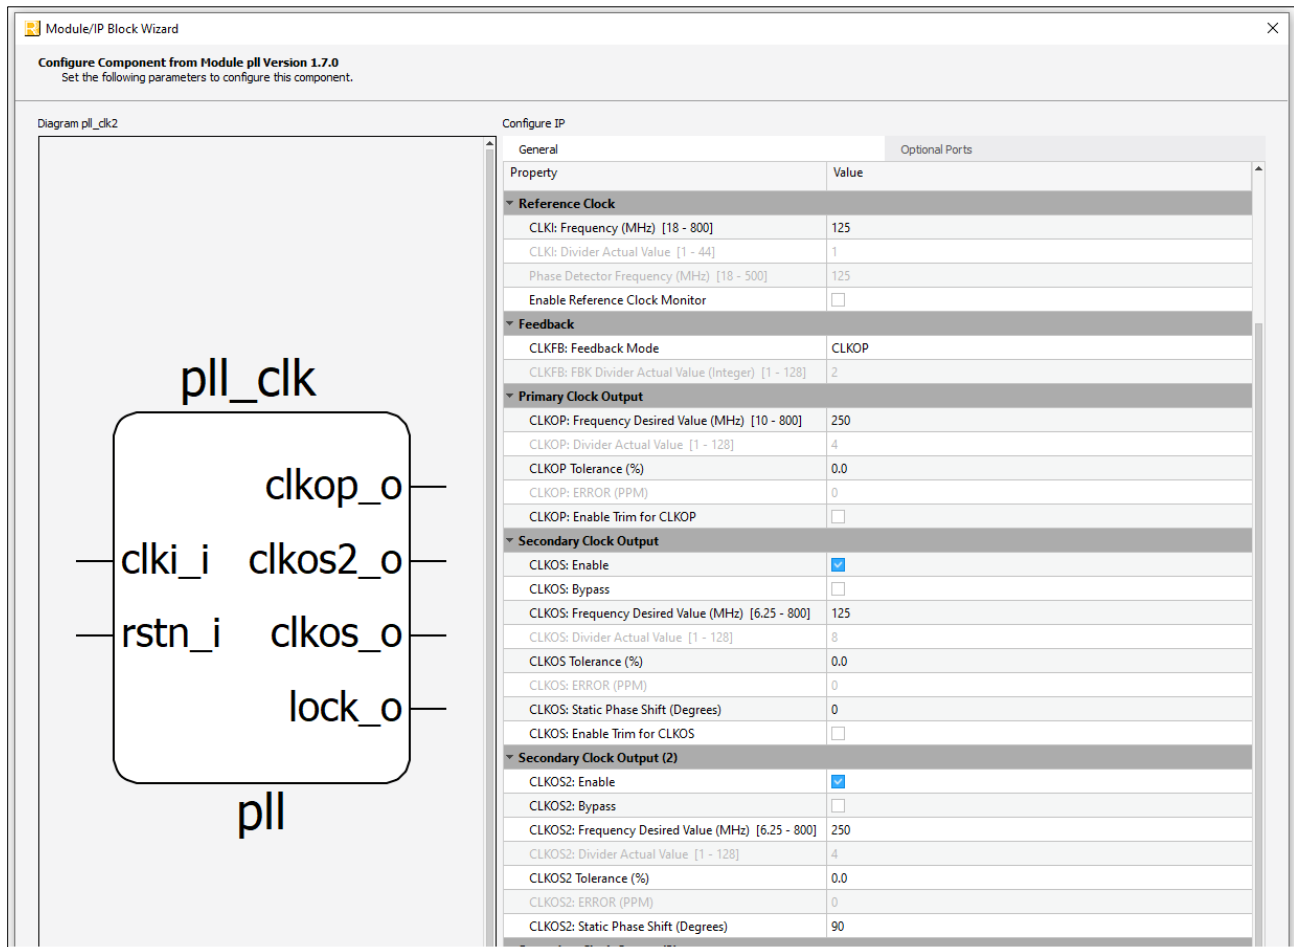

Figure 7.5. PLL IP Configuration for Input Clock of 125 MHz
- For sys_clk_i and clk_usr_div2, refer to Table 2.1 on selecting the frequencies for Gen1, Gen2, or Gen3 data rates. You can use a PLL IP to create these clocks. Refer to the PLL Module IP User Guide \(FPGA-IPUG-02063\) for instantiation and generation of PLL IP. Figure 7.5 shows the IP configuration for Gen 3 rates if using an input clock of 125 MHz.